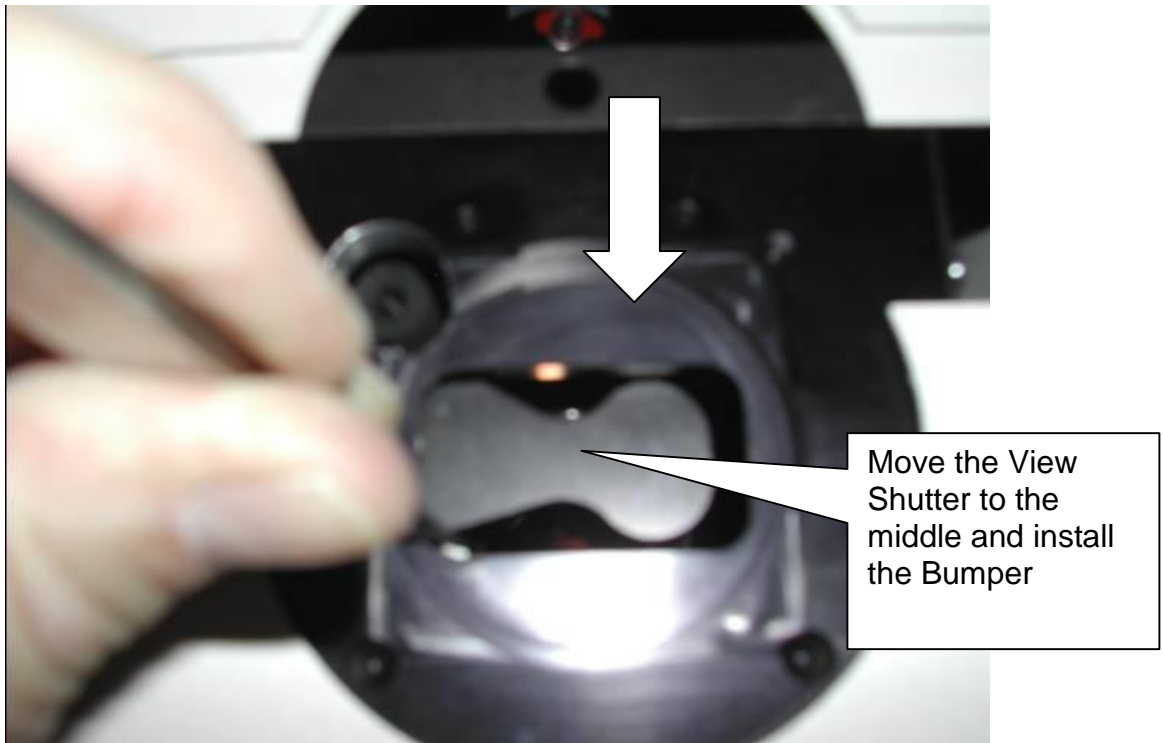

Figure 9
- J Move the shutter vane back to the middle and install the new bumper. **Figure 9 & 10**